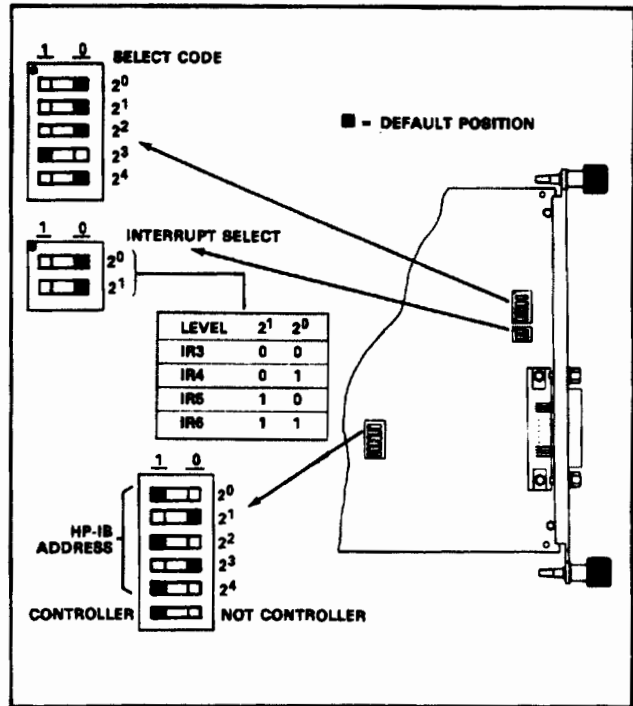

Figure 2-11. HP 98624A Configuration Switches
- Change the HP 98624A card's HP-IB address from its default value (21) to 20 (move the 2⁰ switch to the 0 position).
- The HP 98624A card's default Select Code is 8. If this creates a conflict, try to change the Select Code of some other device. If you must change the card's select code (see Figure 2-11), then you will have to *make a corresponding change to the Shell program in the HP-IB File Transfer Utility*. This is explained in Appendix B.
If required, you may also change the HP 98624A card's interrupt priority level (default is 3). See Figure 2-11.